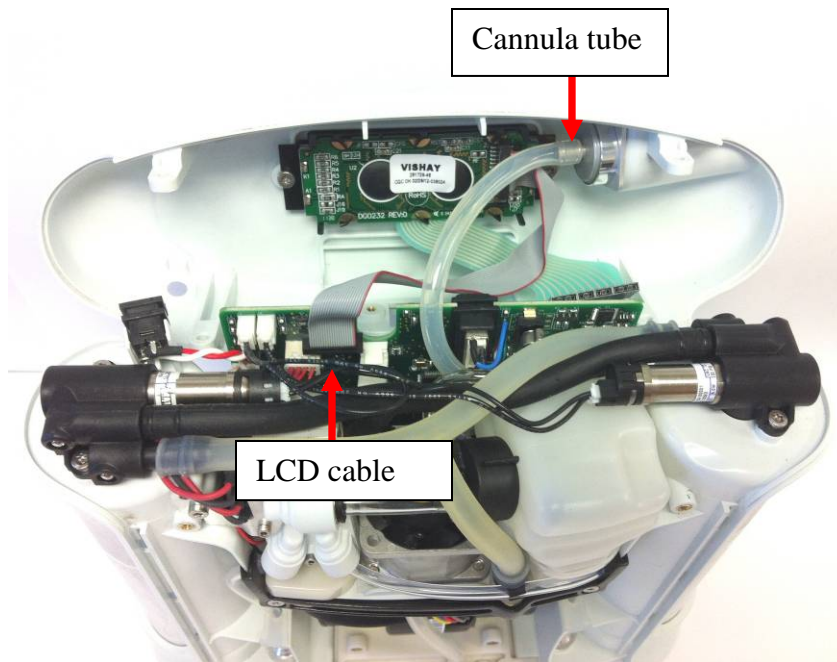

Figure 8: Remove cannula tube and power cable
8. Gently unplug the cannula tube from the user interface panel and the LCD cable from the motherboard (Figure 8) and set the user interface panel aside.
1. With the new feed waste manifold(s) fully installed, the user interface panel can now be replaced. Plug the LCD cable back into the motherboard (Figure 8). *Note orientation of red wire.* Re-attach the cannula tubing to the cannula connector.